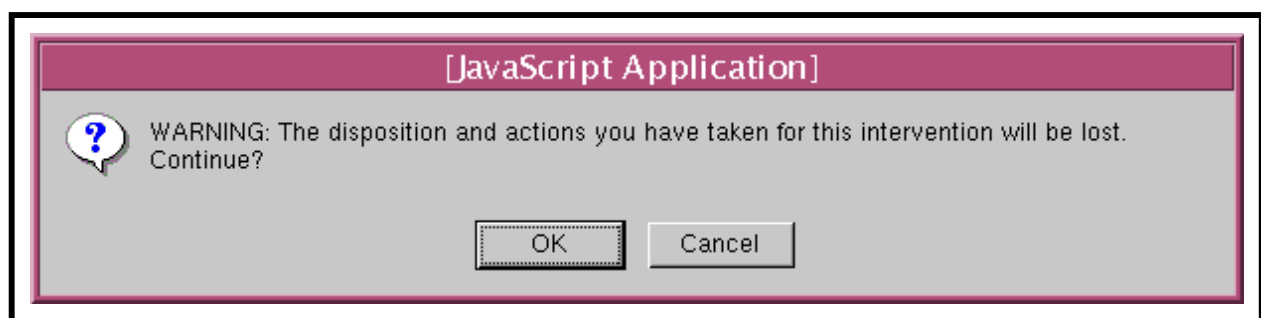

Figure 31. Continue Question Dialogue Box
- A warning dialogue box (Figure 31) is displayed with the message “WARNING: The disposition and actions you have taken for this intervention will be lost. Continue?”